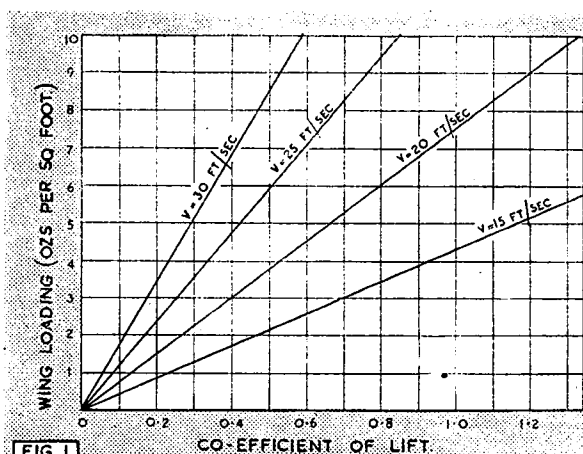

FIG 1
Here is a new idea for the crashproof petrol model addicts, sent in by K. A. Richardson of Grimsby. To take the one crash from which a model seldom survives Mr. Richardson thought up the device illustrated in Fig. 1, which is in essentials a telescopic engine mount by which the engine and all the accessories move backwards together until the shock from a collision head-on with, for instance, a brick wall is transposed to the forward slung undercarriage. Needless to say, the method works equally well for any kind of solid obstacle, and if desired can be amalgamated with an ordinary knock-off mount to give complete prang-protection. Where a cowling is used, both motor and cowling may be made to slide, the motor on the inside and the cowling on the outside of the fuselage shell, or if preferred, the motor only may slide, as the very occasional crashes of this nature will warrant the destruction of a simple cowling when the engine and model are saved as a result.
The third and last decision is the choice of a suitable wing section. Table I gives a small selection, and of these N.60 is the only really suitable one for an orthodox power model. Notice that the aerofoil characteristics for optimum performance are given in the table: this saves an enormous amount of time when comparing aerofoils, and also obviates the need for "Critical VL" graphs (See Fig. 1, Part X, Aug. 1947 issue) in many cases. But more of this anon.
1.. Having obtained the  $C_L$  from the Table (Fig. 2) and knowing the flying speed, obtain the wing loading from Fig. 1. To obtain the total weight of the model, multiply this by the expression: